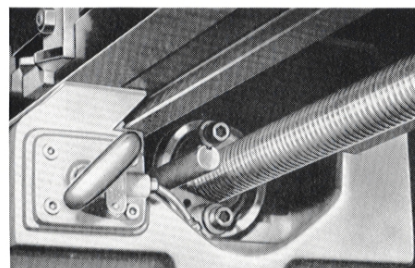

Figure 23B
**Anti-Backlash Device** — The device for controlling backlash between the table feed screw and nut is shown in Figure 23B. Although lubrication is more than adequate to these two elements, some wear is inevitable due to the variety of milling set-ups that are possible, particularly that of climb or down milling. This anti-backlash device has incorporated within its design a simple means of adjustment to compensate for any excessive "play." (For adjustment, see page 27.)